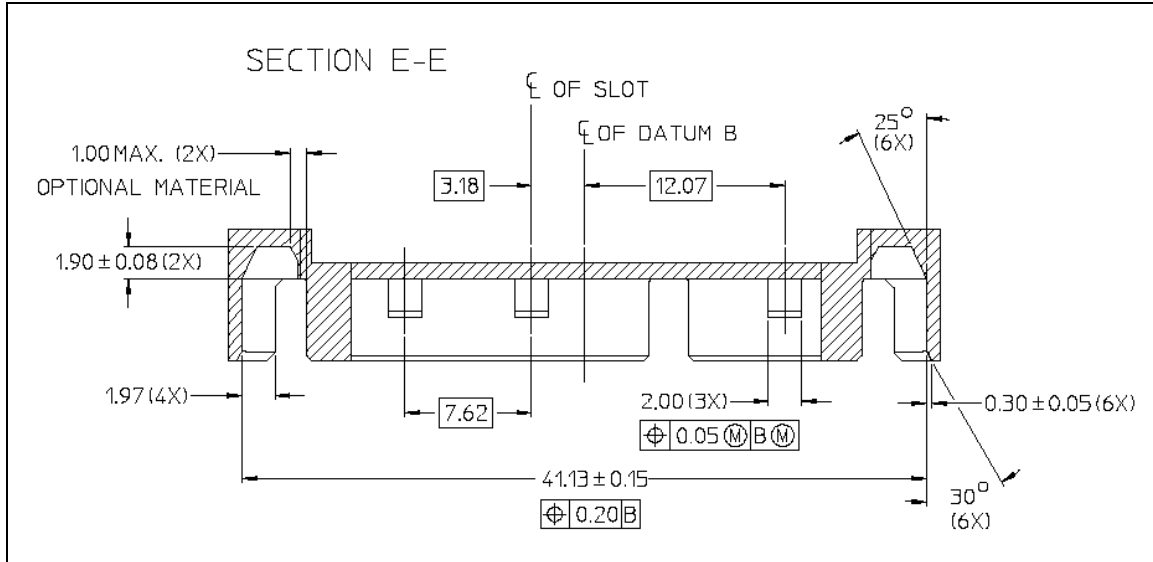

Figure 27 – Section E-E
2.1 Figure 27 – Device plug connector